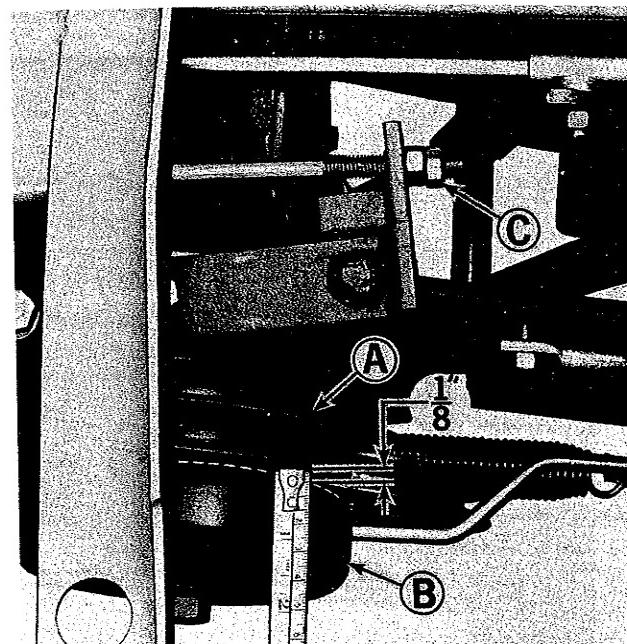

Figure 13. Power take off clutch.
See figure 13. The power take off clutch is properly adjusted when pulley (A) moves $1/8''$ when the power take off control lever is engaged and disengaged. If adjustment is required, proceed as follows:
3. Observe the movement of pulley (A) in relation to cup (B) as the power take off control is moved slowly from the engaged to disengaged position. If the pulley (A) moves more or less than $1/8''$ adjustment is required.
4. Turn the rear most nut at (C) counter-clockwise to loosen it slightly. To increase the amount pulley (A) travels turn the nuts at (C) clockwise. To decrease travel of pulley (A), turn the nuts counter-clockwise. Adjust the nuts at (C) and observe the travel of pulleys (A) as the power take off lever is engaged and disengaged. When adjustment has been made so the pulley (A) travels $1/8''$ tighten the rear most nut at (C) against the forward nut to lock them in place.